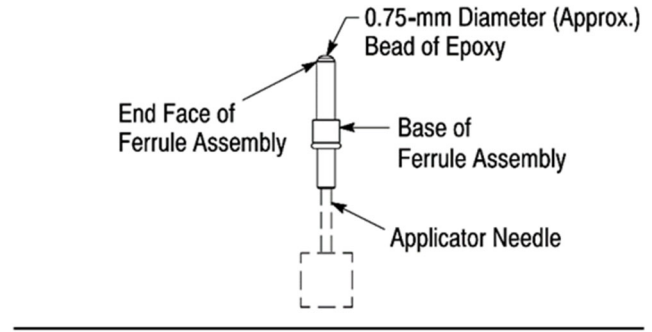

Figure 6
a. Hold the ferrule assembly vertically and insert the needle tip into the base of the ferrule assembly until it is against the back (end closest to the base) of the ferrule assembly. Refer to Figure 6.